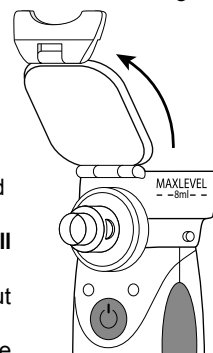
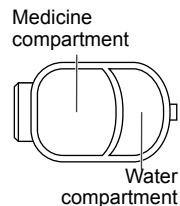

Fig.5
Fig.6
2. Open the cover of of inhalation chamber, lifting the latch (Figure 5). Fill the solution into the medicinal compartment (Figure 6). The maximum capacity of the compartment for drugs – 8 ml (up to the mark MAXLEVEL), minimum – 0.5 ml. In order to maintain the temperature of the warm solution, complete compartment for water with hot water.(Fig. 6) It is recommended to fill the water heated to 80°C. Close the cover of inhalation chamber, lowering the latch.